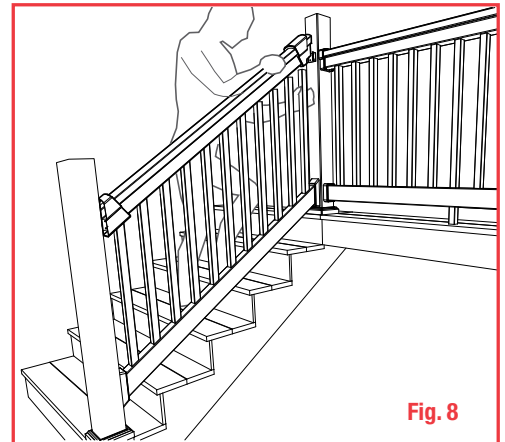

Fig. 8
- 13 Slide the bracket covers over both ends of the top rail. Align the top rail over the Balusters and insert the Balusters one at a time until the top rail is fully installed. (Fig. 8)